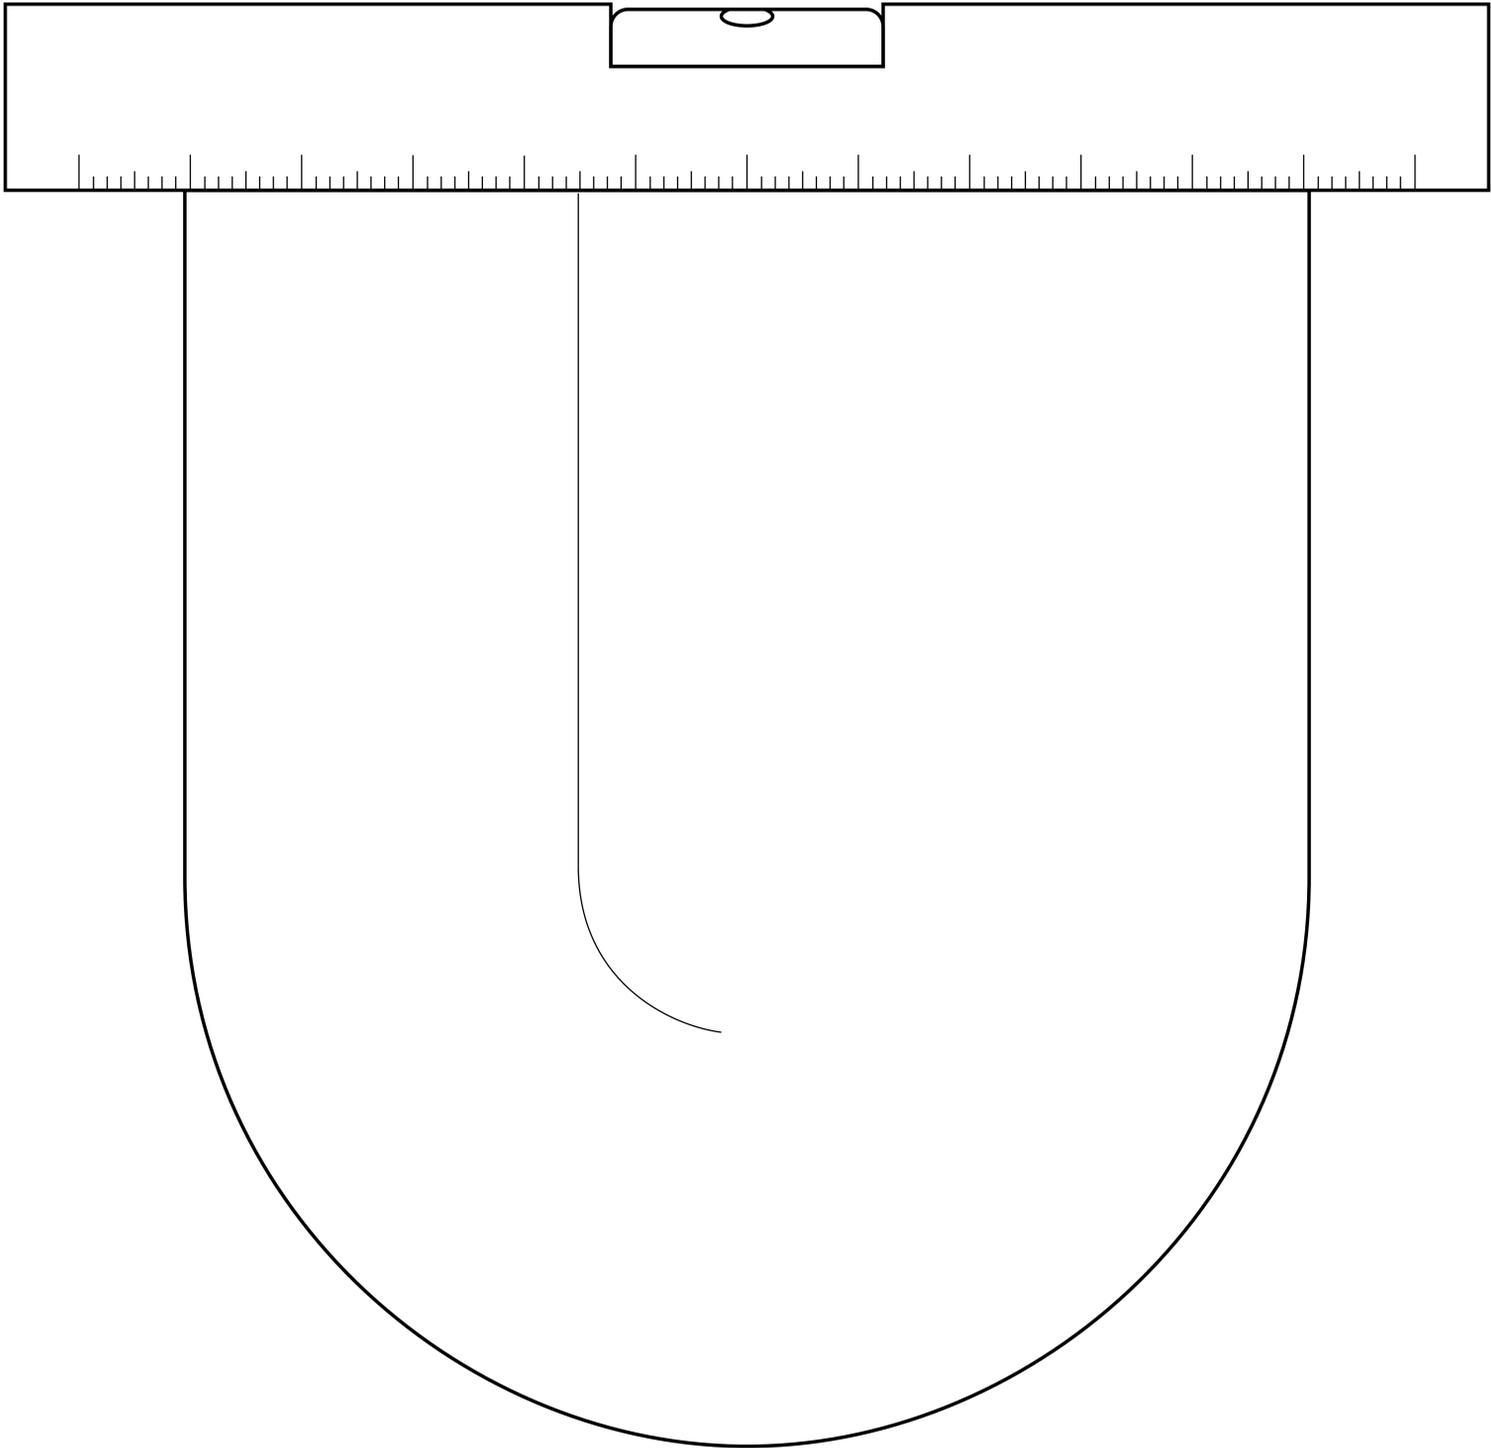

Figure 2: Wall marking layout
2. Mark the top reference line (*Figure 2*).
Measure the actual distance (A) between the two mounting holes (center-to-center) on the fixture (*Figure 3*). From the centerline, mark half of this distance ($A/2$) to the left and $A/2$ to the right on the mounting-hole line (*Figure 2*). These two marks are the drilling centers.